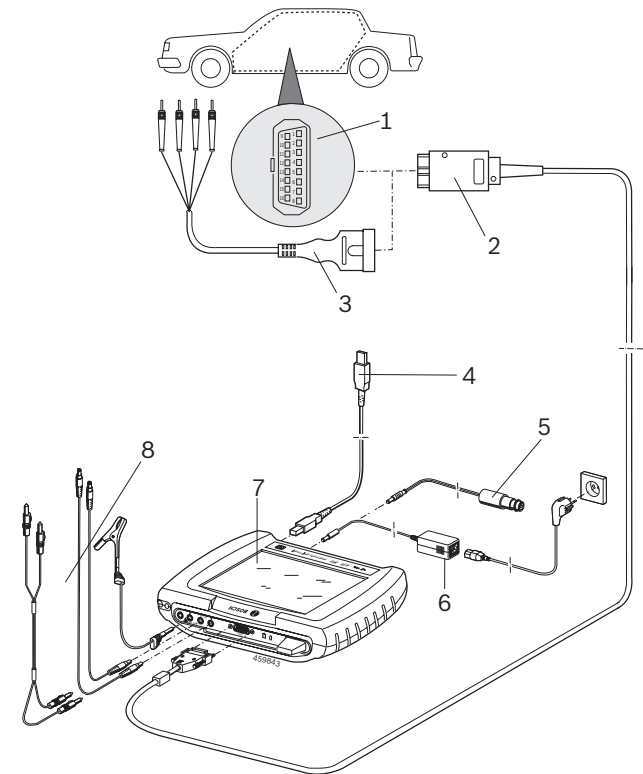

Fig. 3: KTS 340 connection diagram
- The OBD diagnostic cable (Fig. 3, Pos. 2), or
- The OBD diagnostic cable and also the UNI connecting cable (Fig. 3, Pos. 3; special accessory), or